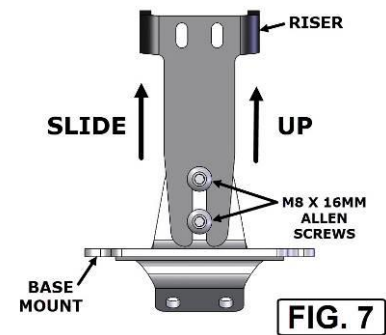

FIG. 7
8. PLACE THE SUPPLIED RISER ON THE TWO SCREWS AS SHOWN IN FIG. 7. USING A 5MM ALLEN WRENCH AND A 13MM WRENCH ADJUST AND TIGHTEN THE SCREWS AND JAM NUTS SO THAT THE HEAD OF THE SCREW IS AS CLOSE AS POSSIBLE TO THE RISER BUT THE RISER WILL STILL SLIDE OFF OF THE SCREWS.